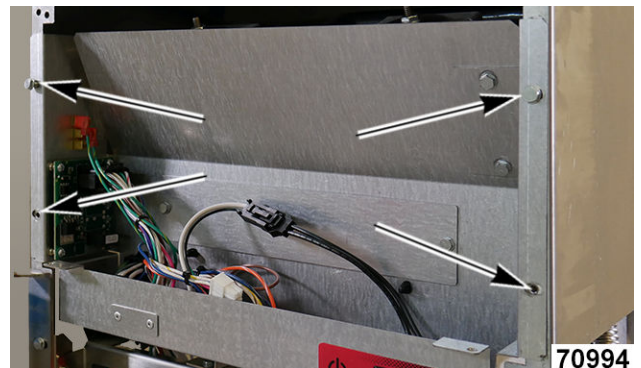

Fig. 14
7. Remove heat shield bolts (Fig. 14).
10. Align holes and install heat shield bolts Fig. 14.